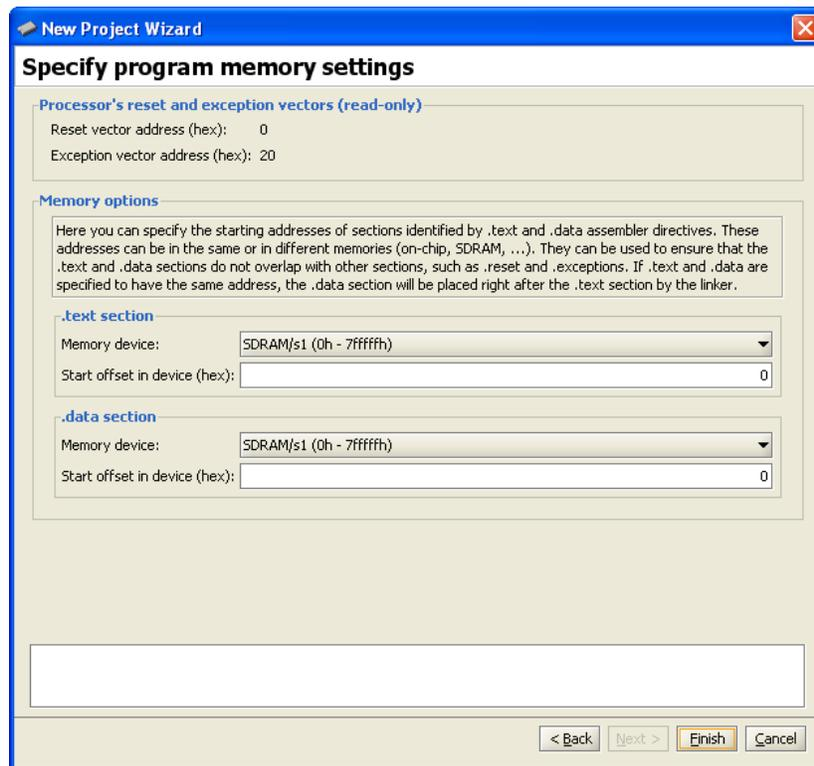

Figure 11. Specifying memory settings.
- Click **Next** to reach the final screen for creating the new project, shown in Figure 11. This screen is used to specify memory settings that are needed for compiling and linking the program. Nios II programs are stored in a format that supports *sections*, which are used to divide a program into multiple parts, such as an
As illustrated in Figure 11, choose the SDRAM chip in the DE2 Basic Computer as the storage location for both the *.text* and *.data* sections, and use the value 0 for the offset into the memory for both sections. When the offsets for both sections are identical the linker automatically places the *.data* section immediately after the *.text* section.